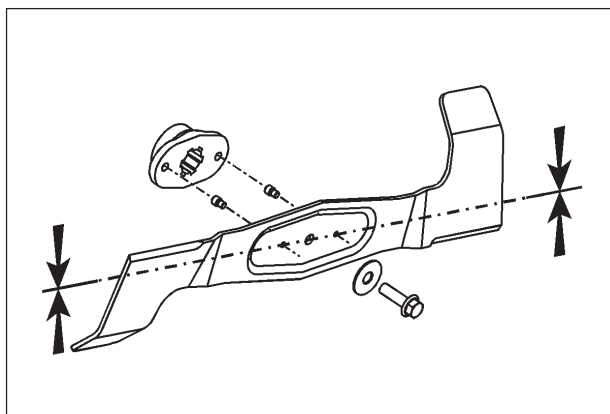

Fig. 30
As soon as the blades strike any solid object the shear bolts will break. Immediately stop the engine! Check the blades! Replace the broken shear bolts only with factory originals. For installation refer to fig. 30. Check to make sure that all blade mounting bolts are tightened.
2. When replacing the blades, be sure all parts are reassembled in proper order and securely tightened, or severe vibrations will occur (See fig. 30). Bent tip edges of blades must be toward top of the mower deck, or blades will not cut.
SHEAR PINS (FIG. 30)